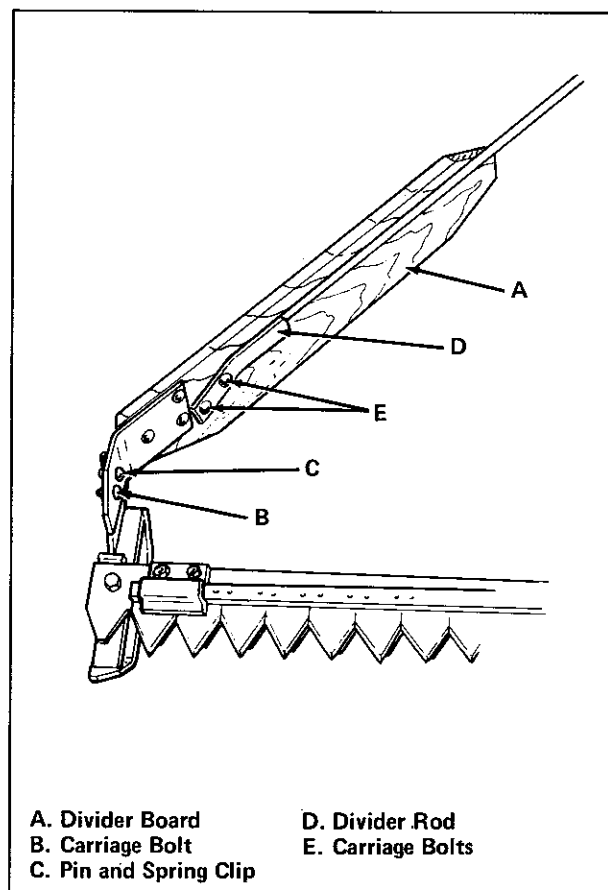

Figure 22. Attach Divider Board and Rod
17. Mount divider board (item A, figure 22) to outer shoe of sickle bar using the smallest carriage bolt (item B) and locknut. Install pin and spring clip (item C).